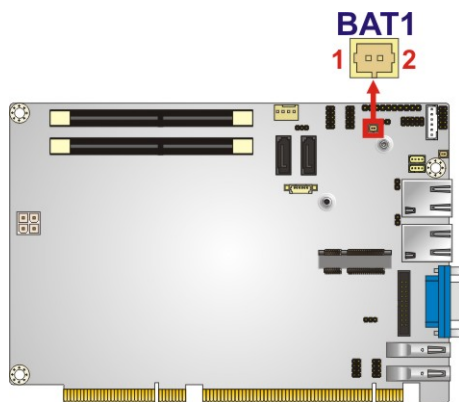

Figure 3-4: Battery Connector Location
- CN Location:** See Figure 3-4